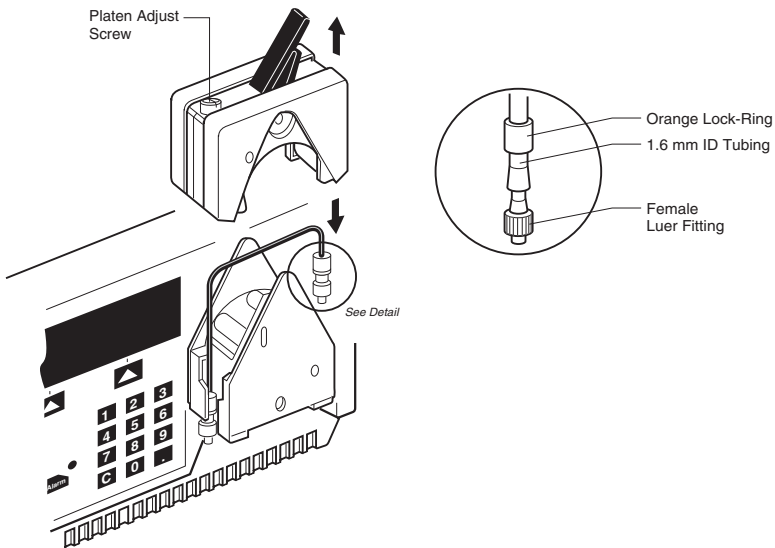

Fig. 4.
1. Adjust platen pressure screw (on pump head) as shown in Figure 4.
5. Assemble with fittings and lock rings as shown in Figure 4. (Use orange lock rings and “medium” size barb fittings with 1.6 mm tubing.)